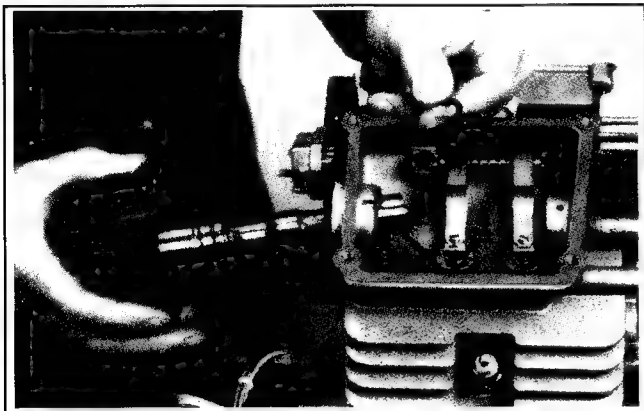

Figure 9-25. Removing Camshaft on #1 Side.
3. Remove the camshaft and thrust washer. See Figure 9-25.